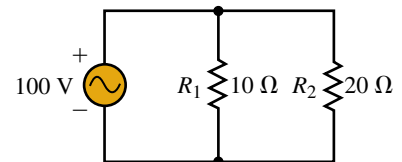

FIGURE 17-31
- A pair of electric heating elements is shown in Figure 17-31.